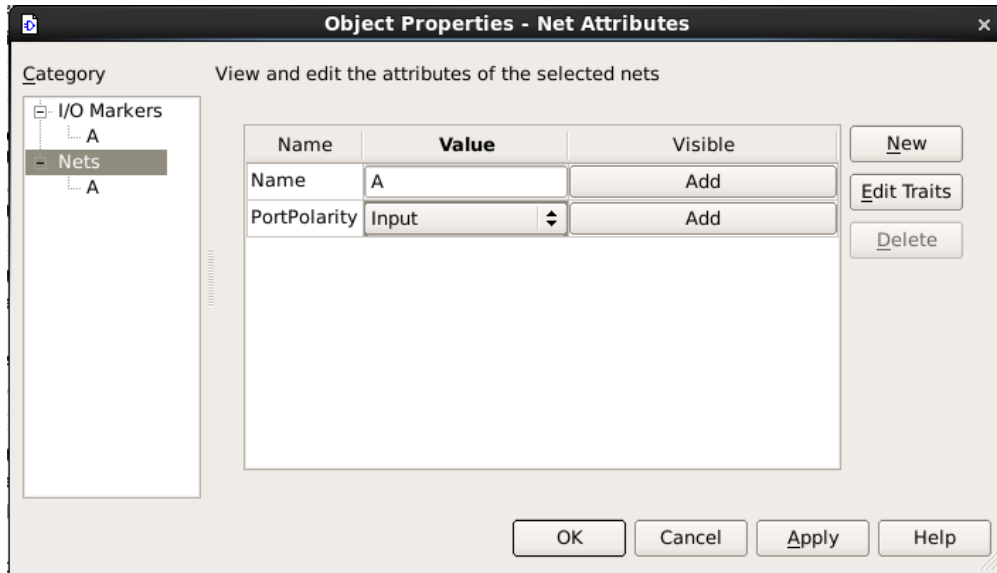

Figure 12: Object Properties dialog box.
- Go back to Select Mode  and double left-click on an I/O marker. When the I/O marker’s object properties dialog box appears, select the Nets category. In this dialog box, enter a meaningful value for the Name field of the I/O marker, and ensure the port has the proper polarity. The finished dialog box should look similar to Figure 12.